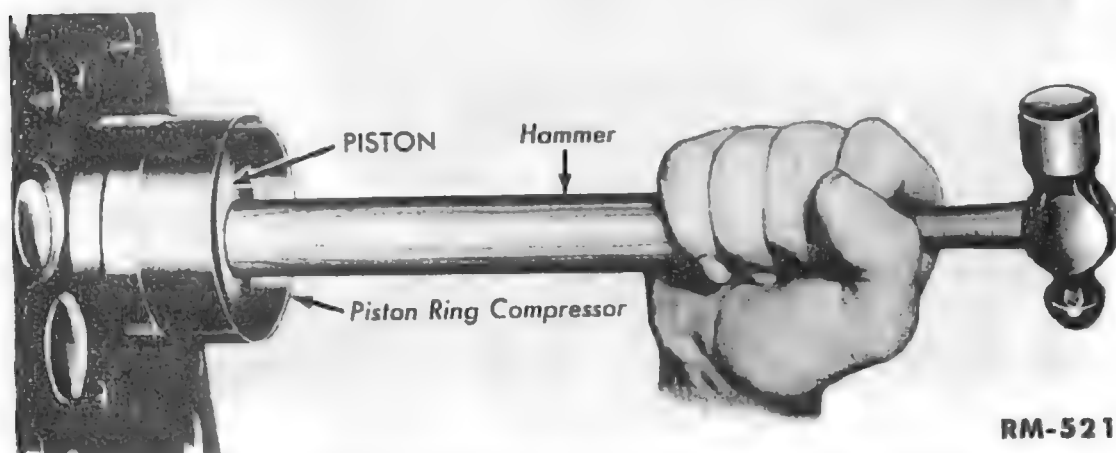

Fig. 42—Installing Connecting Rod and Piston Assembly
c. **Install Connecting Rod and Piston Assembly.** Place the No. 1 connecting rod and piston assembly in the No. 1 cylinder with the oil squirt hole in the connecting rod facing toward the front of the engine and the number on the camshaft side of the engine. Install a piston ring compressor on the piston rings, and tap the piston down into the cylinder with the handle end of a hammer (fig. 42).